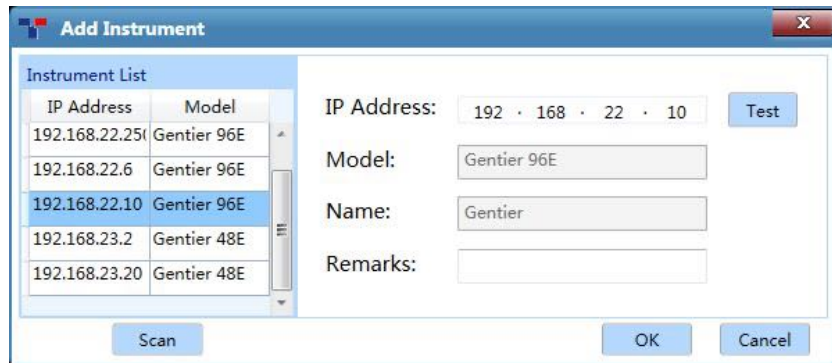

Figure D-3.2a Instrument Management interface - Add Instrument window
- Click **< Add >** and the add instrument window will automatically pop up, as shown in figure D-3.2a.